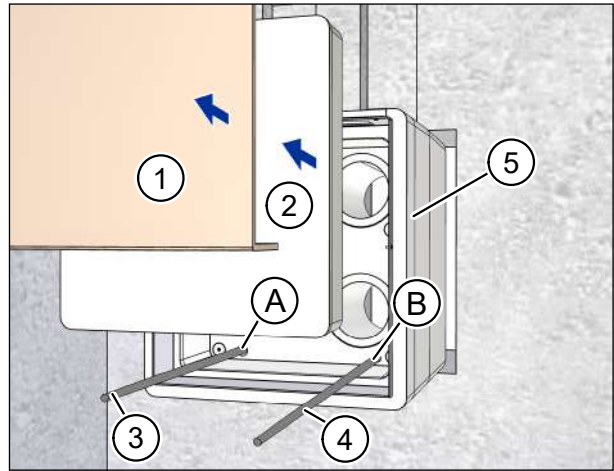

Fig. 21: Inserting the wall box
- ▶ Remove the plaster cover (item 1 in Fig. 21) and the protective cover (item 2 in Fig. 21) from the wall box (item 5 in Fig. 21).
- ▶ Thread the mains cable (item 3 in Fig. 21) through the cable inlet A in the wall box (item A in Fig. 21).
- ▶ If necessary, use a screwdriver to punch through the sealed cable inlet B (item B in Fig. 21).
- ▶ Thread the control cable, if required (item 4 in Fig. 21) through the cable inlet B in the wall box (item B in Fig. 21).
- ▶ Push the wall box (item 5 in Fig. 21) fully into the wall breakthrough.
- ▶ Check that the protective cover (item 2 in Fig. 21 on page 27) is inserted before filling with foam.